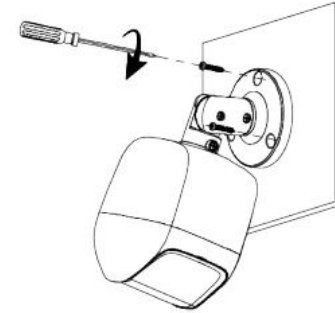

Figure 2-3
**Step 3** Install and tighten down the mounting screws. Loosen the Camera adjustment points for proper clearance when installing the mounting screws. See Figure 2-3.